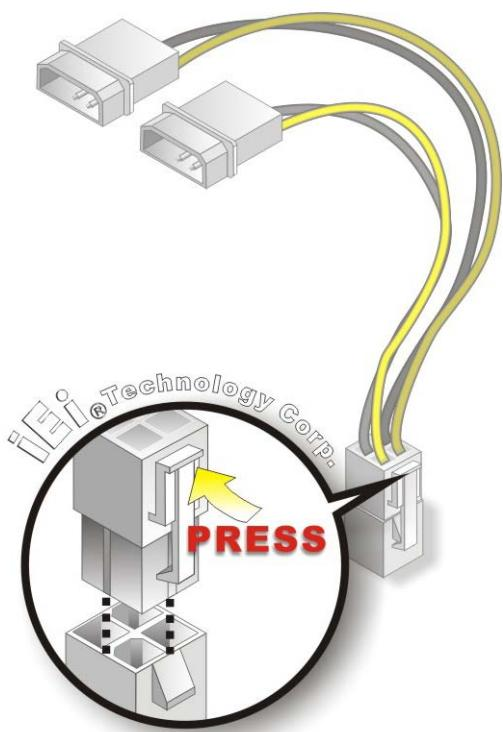

Figure 4-11: Power Cable to Motherboard Connection
Step 2: Connect the Power Cable to the Motherboard. Connect the 4-pin (2x2) Molex type power cable connector to the AT/ATX power connector on the motherboard. See Figure 4-11.